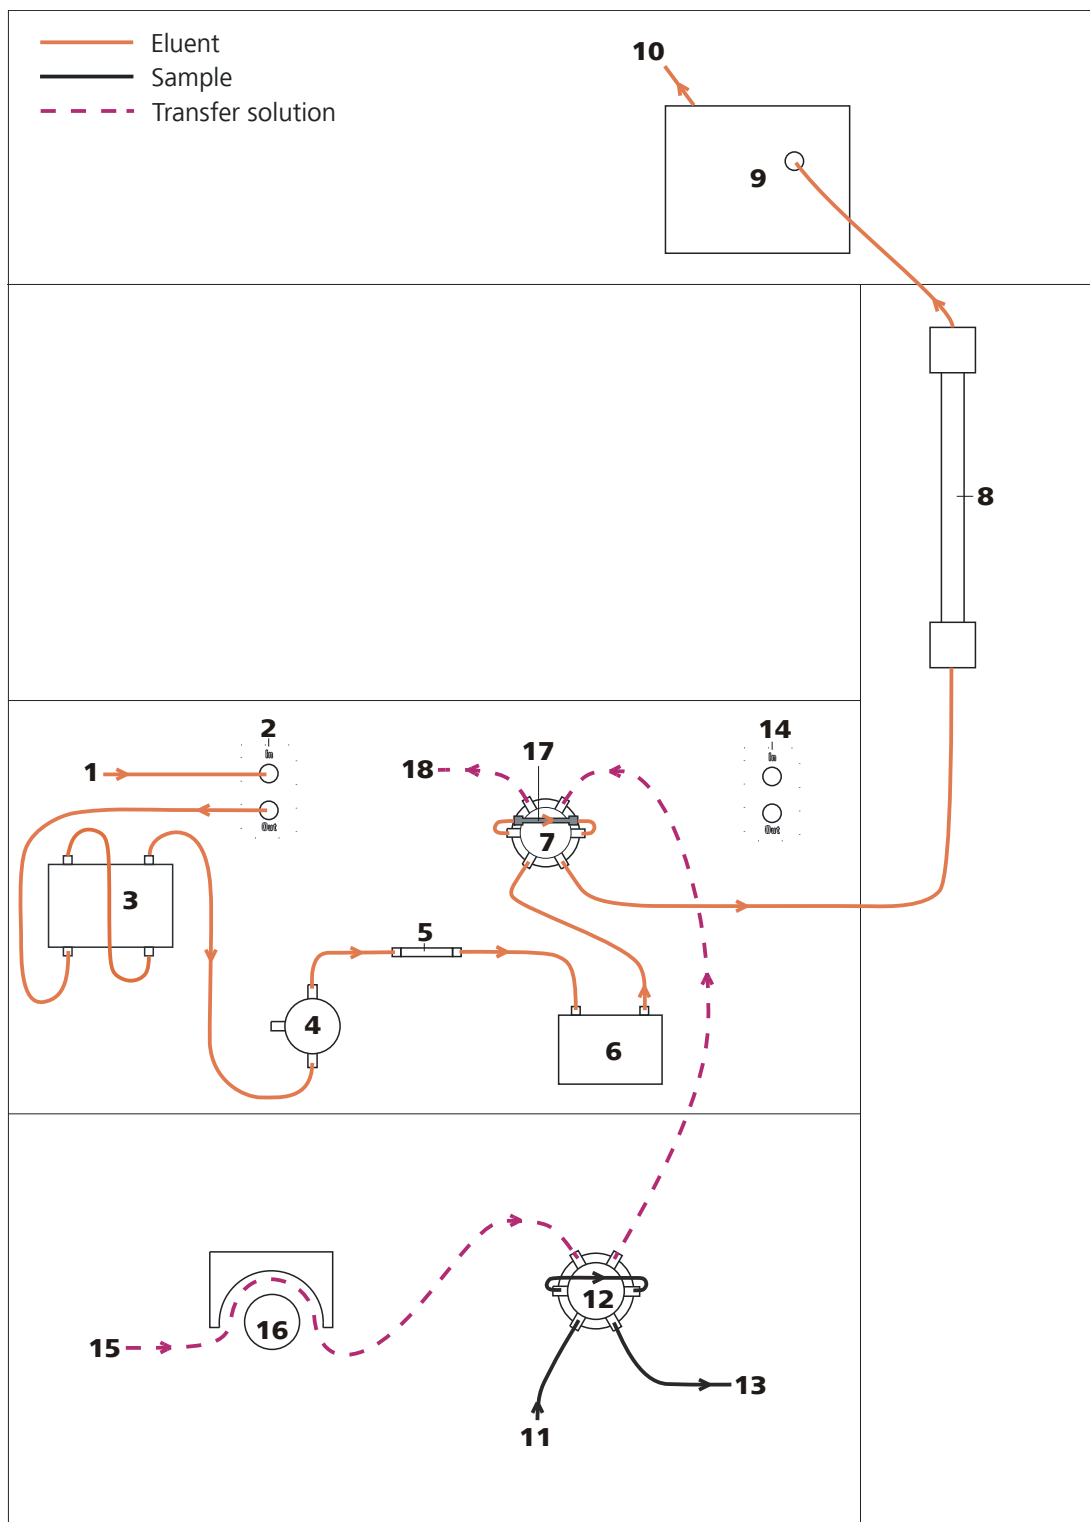
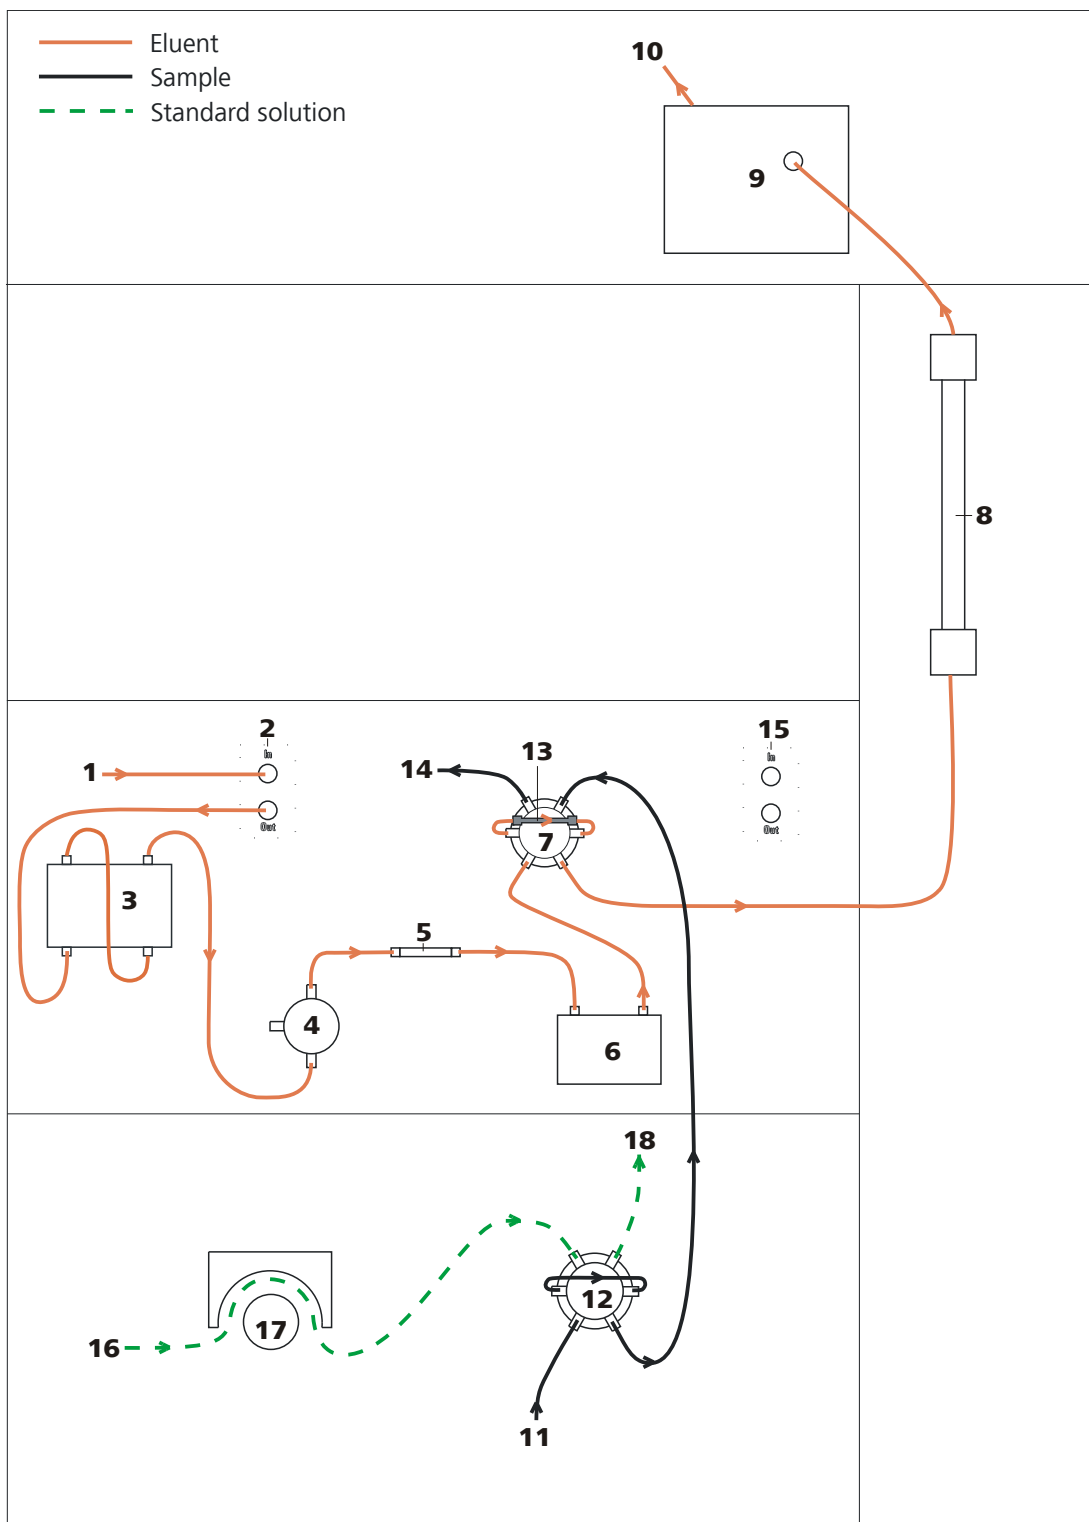

Figure 2 Flow diagram for matrix elimination with transfer procedure
Figure 3 Flow diagram for standard addition with preconcentration.
*Figure 2 Flow diagram for matrix elimination with transfer procedure and Figure 3 Flow diagram for standard addition with preconcentration.* show the flow paths for two with the 2.850.1050 performable analysis technologies. The arrangement of the modules in the diagram corresponds to the front view of the instrument. Liquid containers (eluent bottle, sample vessel, waste container, auxiliary solutions container) and guard column (*see chapter 2.20, page 56*) are not shown in the diagram. Which pressure screws, connections and couplings are used, is described in the installation chapters of the individual modules.